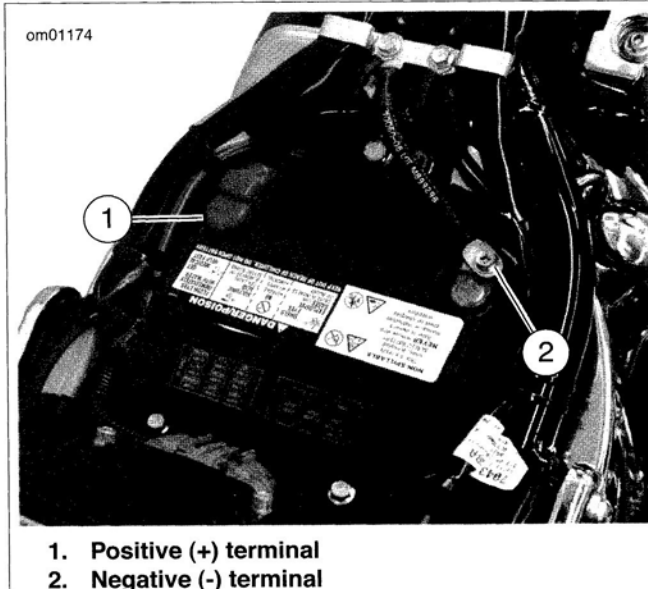

Figure 1-60. Battery: Softail Models
4. See Figure 1-60. Remove battery negative cable (black) from battery negative (-) terminal.